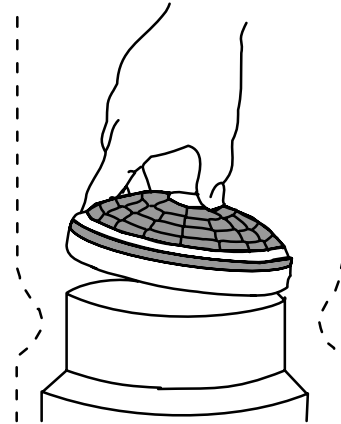

FIG. 14
1. Unlatch and remove the top cap and pull out the cloth filter. Check to see that the dome filter has not shifted during shipping (Figure 14).